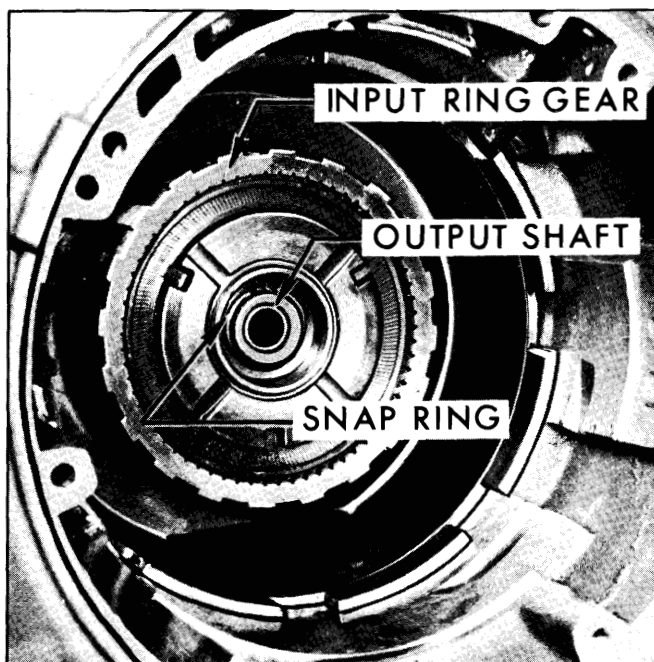

Fig. 7-40—Removing Output Carrier to Output Snap Ring
8. Remove output carrier to output shaft snap ring. (Fig. 7-40)